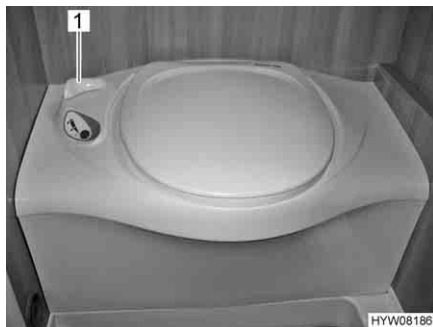

Fig. 250 Thetford toilet
- Before flushing open the sliding trap of the Thetford toilet. To do this, turn the slide lever (Fig. 250,1) in an anticlockwise direction.
- After flushing close the sliding trap. To do this turn the slide lever (Fig. 250,1) in a clockwise direction.